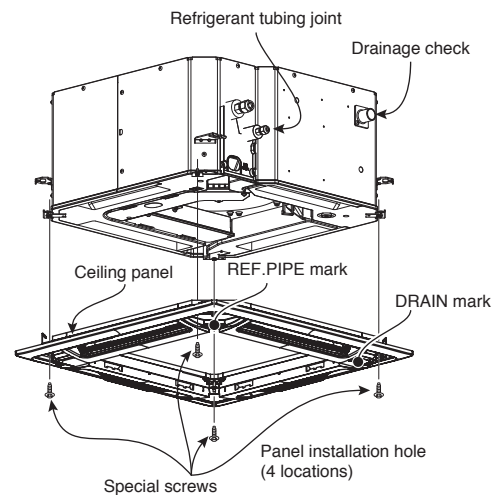

Fig. 6-18
- (2) Align the panel installation holes and the unit screw holes. (Fig. 6-18)
- (3) Tighten the supplied special screws at the 4 panel installation locations so that the panel is attached tightly to the unit.
- (4) Check that the panel is attached tightly to the ceiling.